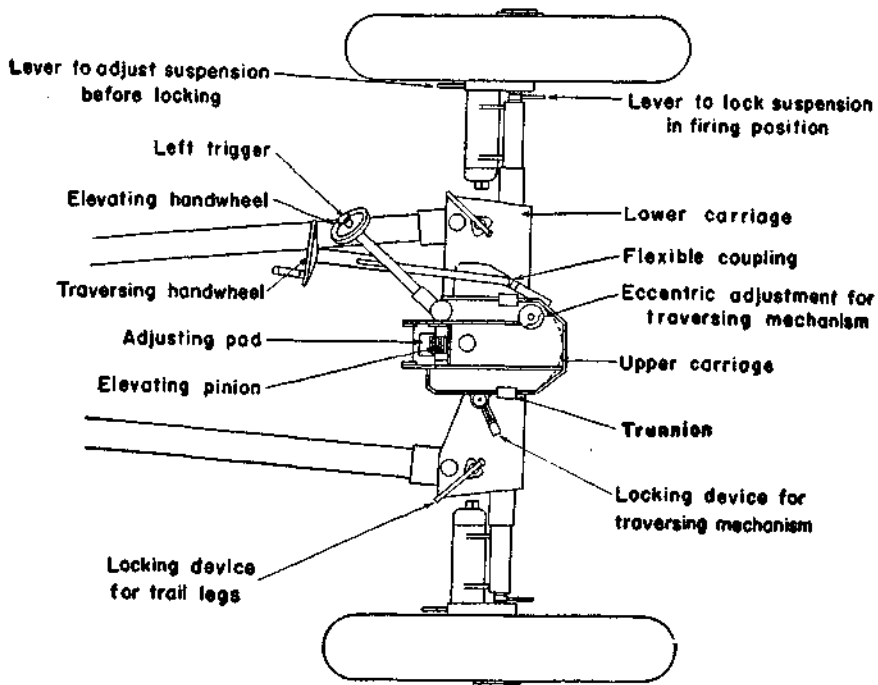

Figure 63.—Carriage of 3.7-cm Pak, showing traversing and elevating mechanisms.
(3) *Traversing mechanism*.—The gunner is on the left side of the weapon and operates the traverse with his right hand by a small handwheel (clockwise to the right, counterclockwise to the left). (See fig. 63.) The traverse is 60 degrees (1,062 mils), and is completed by 30½ turns of the handwheel.
(4) *Elevating mechanism.*—The arc of 21 degrees (372 mils) elevation and 13 degrees (229 mils) depression is completed by $33\frac{1}{2}$ turns of the handwheel, which the gunner operates with his left hand. (See fig. 63.)